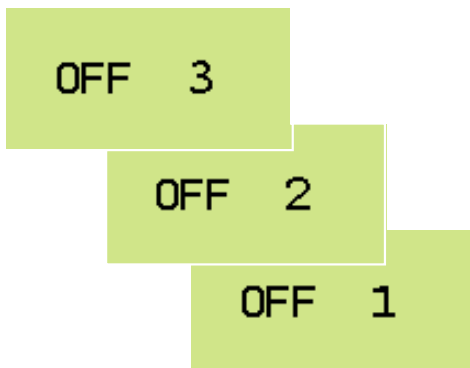

Fig. 3.26 OFF sequence
After this time, the OFF sequence countdown begins and the user will have to keep the buttons pressed for a further three (3) seconds to switch the instrument OFF. The countdown sequence is shown in Fig. 3.26.